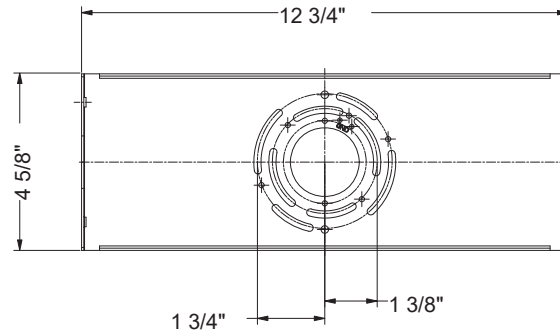

Fig.3
- Connect the driver input/output wires with junction box wires as shown in Fig. 3, making sure that all wire connectors (A) are secured. If your outlet box has a green or bare copper ground wire, connect the fixture's ground wire to it. Otherwise, connect the fixture's ground wire directly to the mounting plate using the green screw provided. After wires are connected, tuck them carefully inside the junction box.
- Secure the fixture to the mounting back plate using the mounting screw (B) and the silicone gasket (C).
- To prevent moisture from entering the outlet box and causing a short, use clear caulking (i.e. indoor/outdoor silicone sealant) to outline the outside of fixture back plate where it meets the wall. Leave a space at the bottom to allow moisture to escape (Fig. 3).